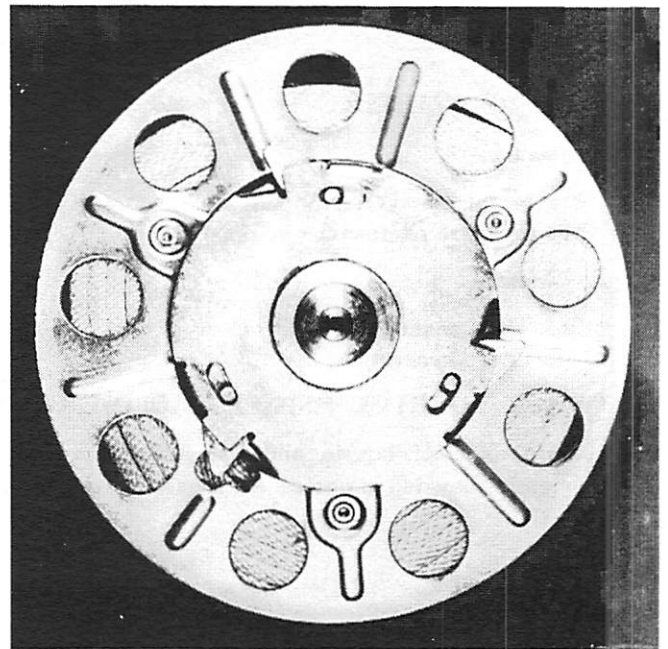

Figure 2. Starter Pawls and Sheave
7. Remove sheave assembly, being careful that sheave does not drop out so that spring unwinds with force. (Figure 2) **CAUTION:** Be sure to place other hand under sheave, as it is removed, to prevent spring from coming out of recess.